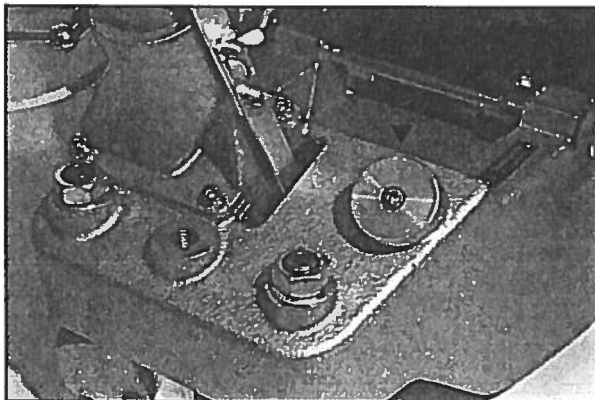

Fig. 11 Drum pressure regulating screw (▼)
1. Adjust the drum pressure regulating screw clockwise (down) to increase the sanding pressure when making the coarse and medium cuts. See Fig. 11.